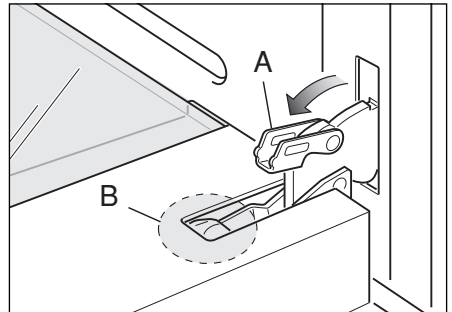
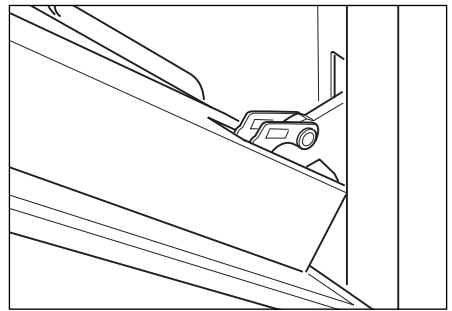

Fig.21b
Fig.21c
- Fully open the lever "A" on the left and right hinges. (Fig 21b).
- Gently close the door (Fig. 21c) until the left and right hinges are hooked to part "B" of the door (Fig. 21b).